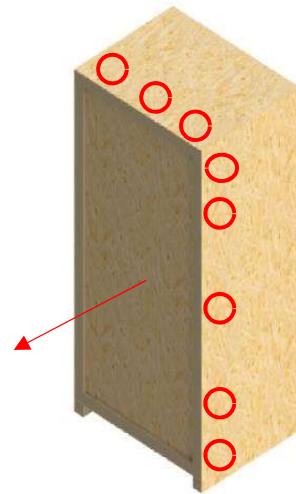

Figure 33
- 4) Unscrew the #8-10 x 1.5" Robertson screws holding the front cover – 5 screws per side and 3 on the top. You might need a stepladder to reach the top screws. (Figure 33)
- 5) Remove the front cover and discard. (Figure 33)